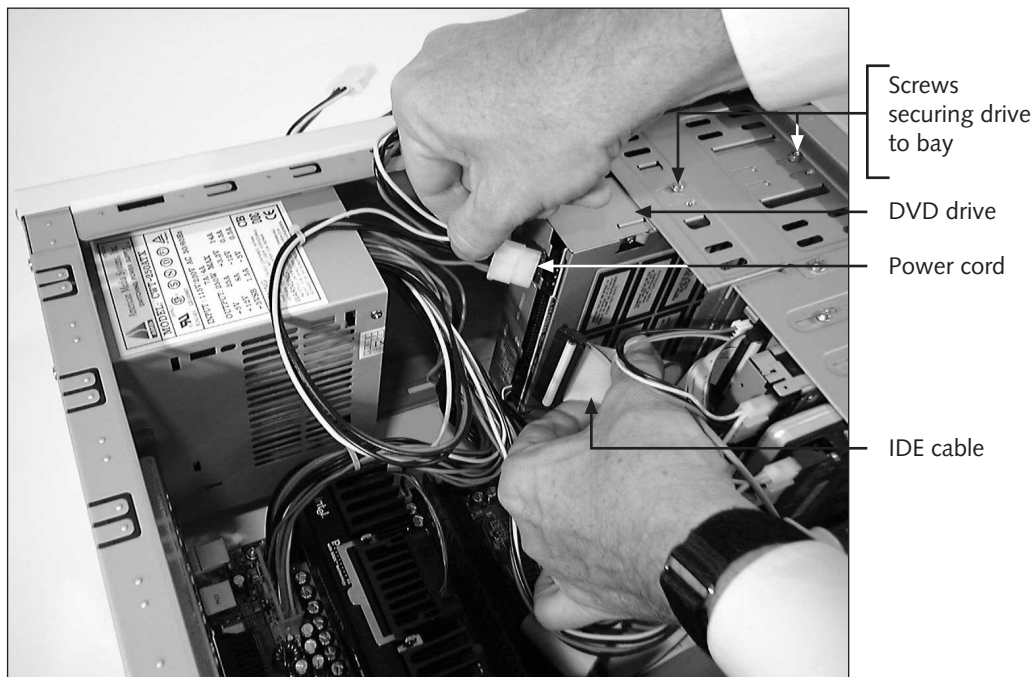

Figure 15-47 After the DVD drive is secured in its bay, attach the IDE data cable and power cord
- Attach the IDE data cable to the drive, being careful to align the edge color of the cable with pin 1 on the drive (Figure 15-47).